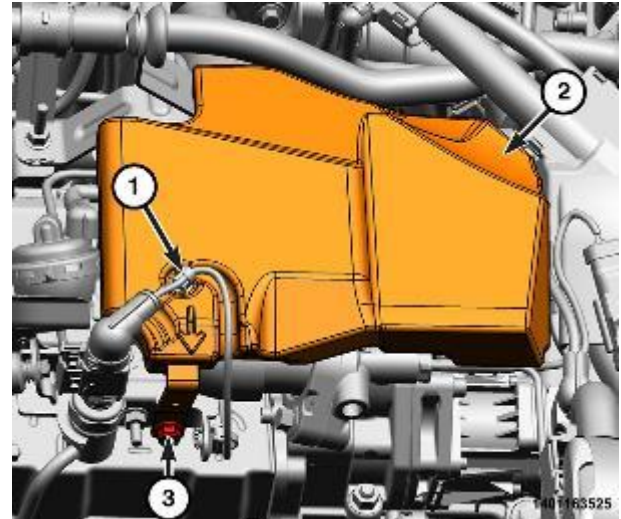

Figure 184 – Right Fuel Rail Cover
24. Loosen the right fuel rail cover nut (3), detach the wire harness retainer (1), and remove the fuel rail cover (2) (Figure 184).
50. Install the fuel rail cover (2), attach the wire harness retainer (1), and tighten the right fuel rail cover nut (3) to 5 N·m (44 In. Lbs.) (Figure 184).